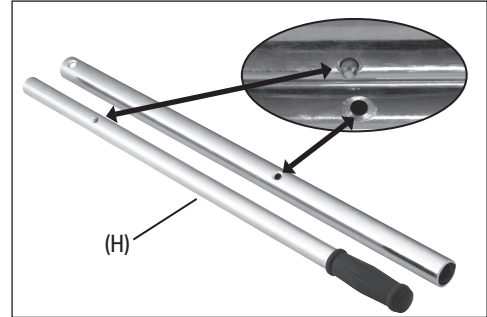

Fig. 4
6.2 Fitting The Handle (fig.4)
- Connect the parts of the handle together and select the length required (H).